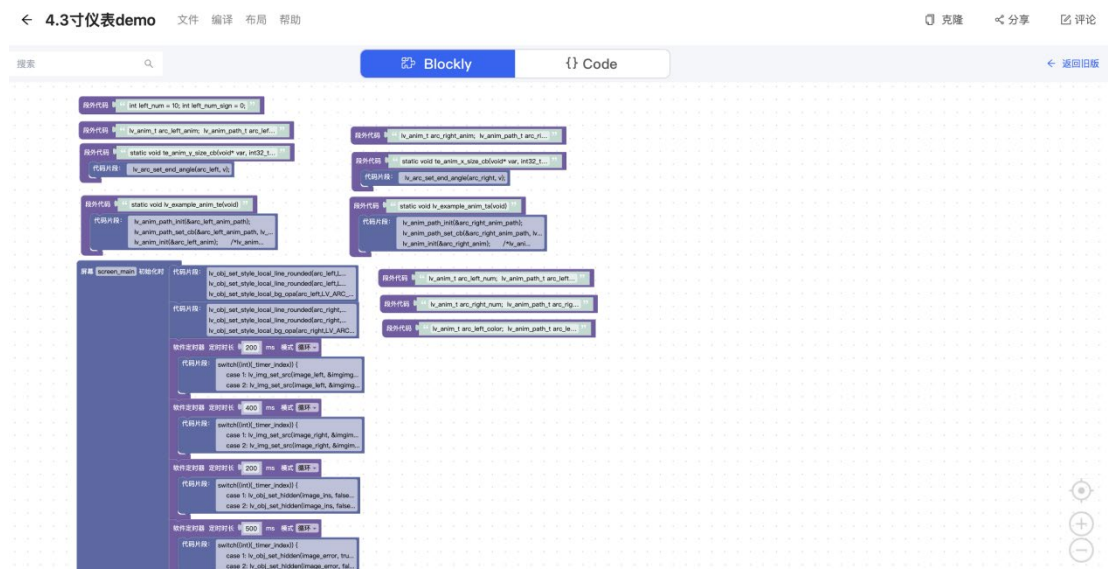

Fig.6
2. After successful WIFI connection, you can test the Bluetooth module, download and open "BLE 调试助手" in the application store, and find the Bluetooth name: QMSD_BLE, click connect to complete the connection (Fig.6) (Fig.7) .
(Fig.6)